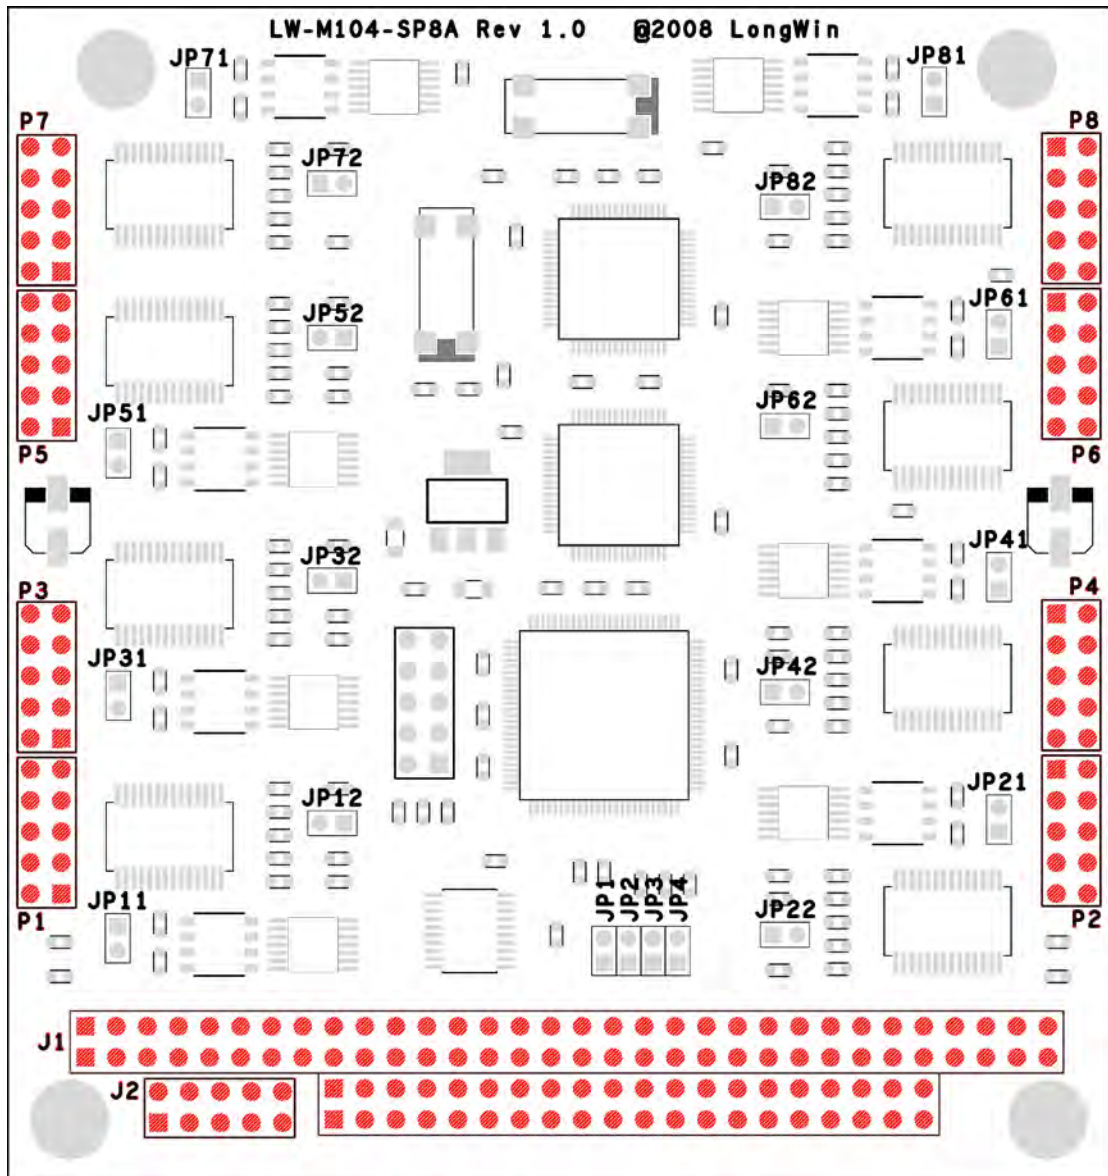

Figure 6. LW-M104-SP8A (DX) Connectors Location
On board connectors link the *LW-M104-SP8A (DX) 8-Port RS-232/422/485 Serial Module* to external devices. Generally, you simply need a cable to make connections. Refer to *Figure 6. LW-M104-SP8A (DX) Connectors Location* for the locations of the connectors J1, J2 and P1 to P8. *Table 3. LW-M104-SP8A (DX) Connector List* summarizes the use of the connectors. The interface is described in following section, showing pin assignments, signal definitions. Please refer to relative section for detail.